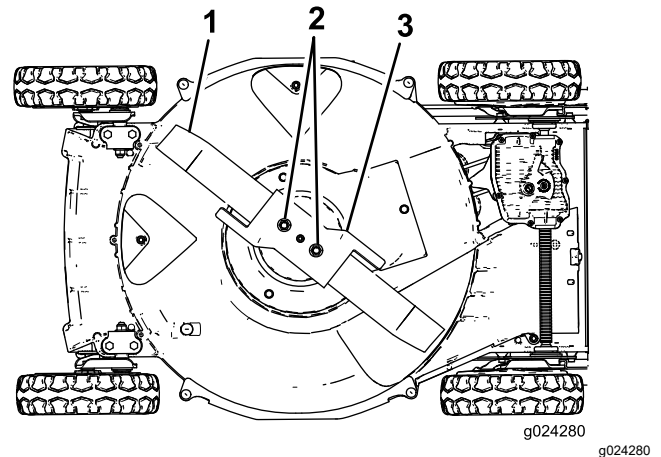

Figure 29
5. Tip the machine onto its **right** side (air cleaner up) as shown in Figure 29.